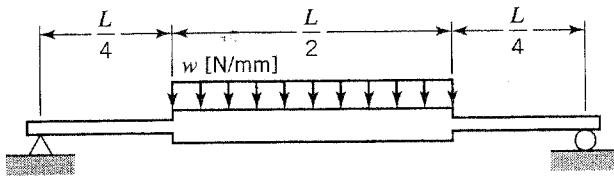

FIGURE P5.26
- 5.26.** The beam in Figure P5.26 has its central half enlarged so that the moment of inertia I is twice the value for each end section. Determine the deflection at the center of the beam.